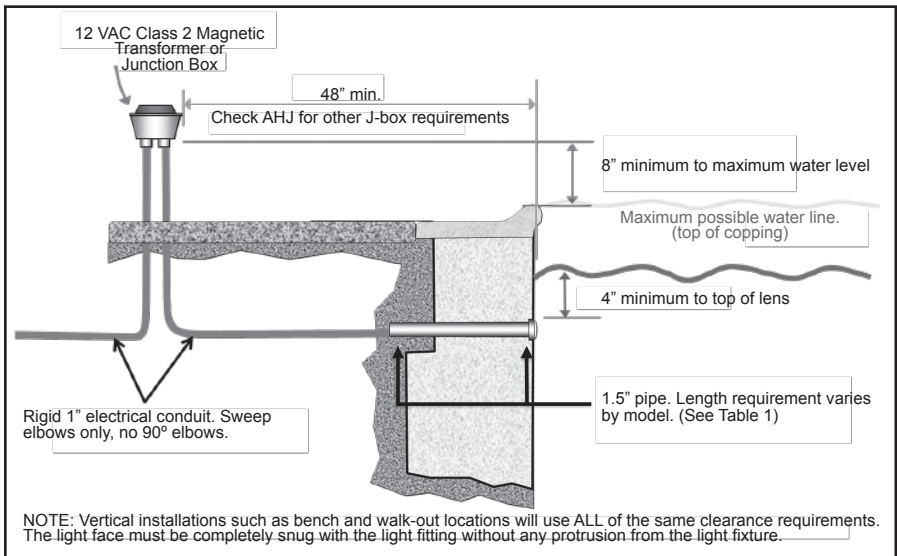

Figure 1. Jandy® LED Light Installation with Standard 1.5" Plastic Fitting
NOTE: The electrician must complete preparatory steps before light fixture is installed. See Figure 1.
1. The junction box or the low-voltage magnetic transformer must be located at least eight (8) inches (measured from the inside of the bottom of the junction box or transformer) above the MAXIMUM water level, OR at least four (4) inches above the ground level or pool deck, whichever is greater. The junction box or 12VAC magnetic transformer must also be installed at least forty-eight (48) inches (4 ft.) from the edge of the pool. See Figure 1.
See Figure 1.